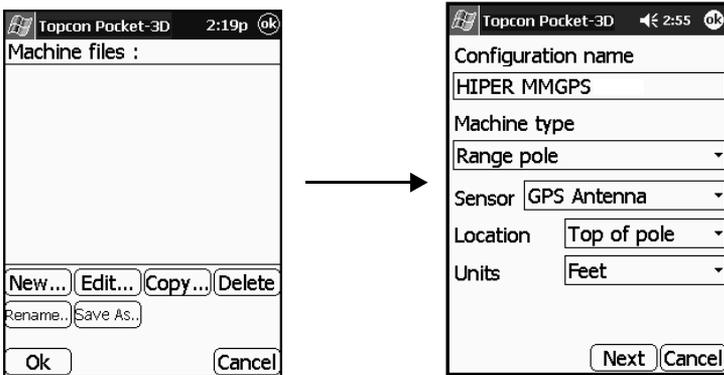

Figure 2-1. Create or Edit an Equipment Configuration
2. On the **Machine files** dialog box, press **New** to create the equipment configuration, or press **Edit** to change an existing equipment configuration (Figure 2-1 on page 2-2).
3. For mmGPS application, apply following equipment parameters, and press **Next** (Figure 2-1):